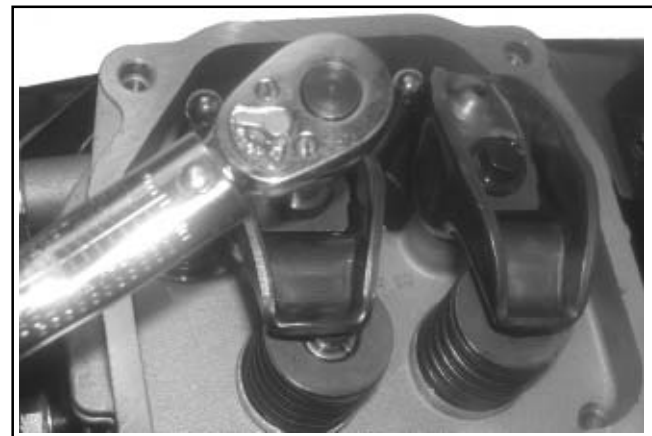

Figure 11-46. Torquing Rocker Arm Screws.
2. Apply grease to the contact surfaces of the rocker arms and rocker arm pivots. Install the rocker arms and rocker arm pivots on one cylinder head, and start the two hex. flange screws. See Figure 11-46.